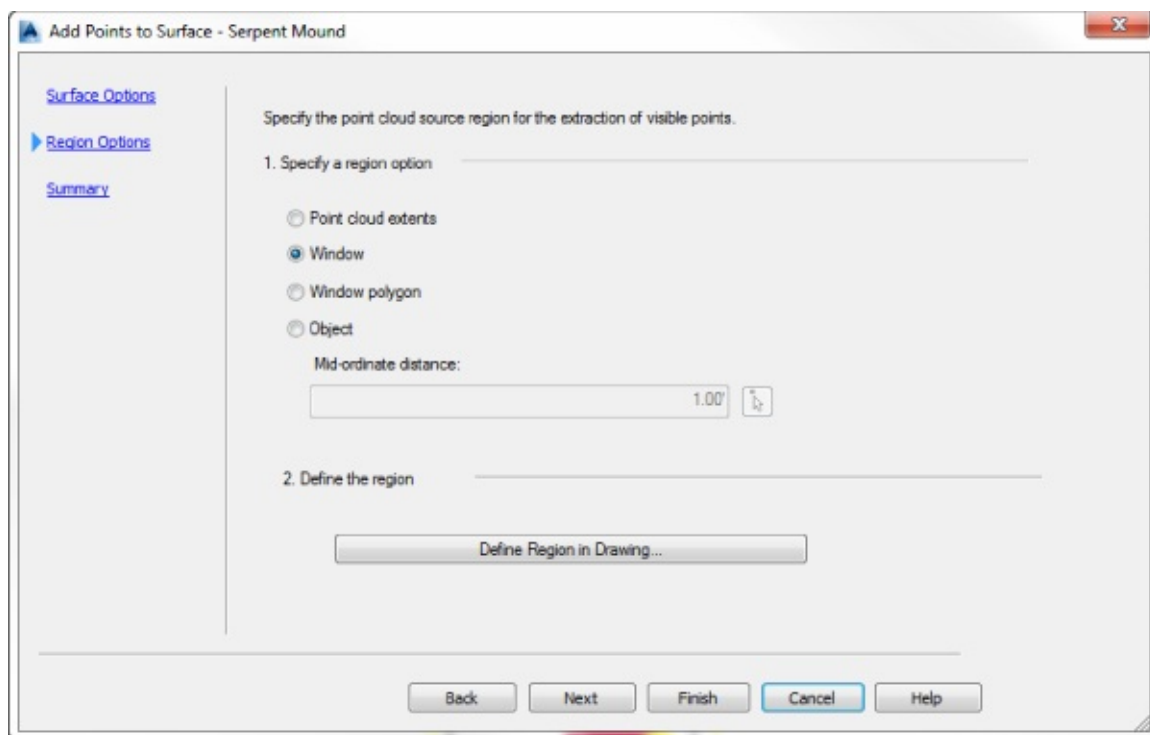

Figure 4.60 The Add Points To Surface – Region Options page
5. Click Next and the Region Options page is displayed (Figure 4.60).